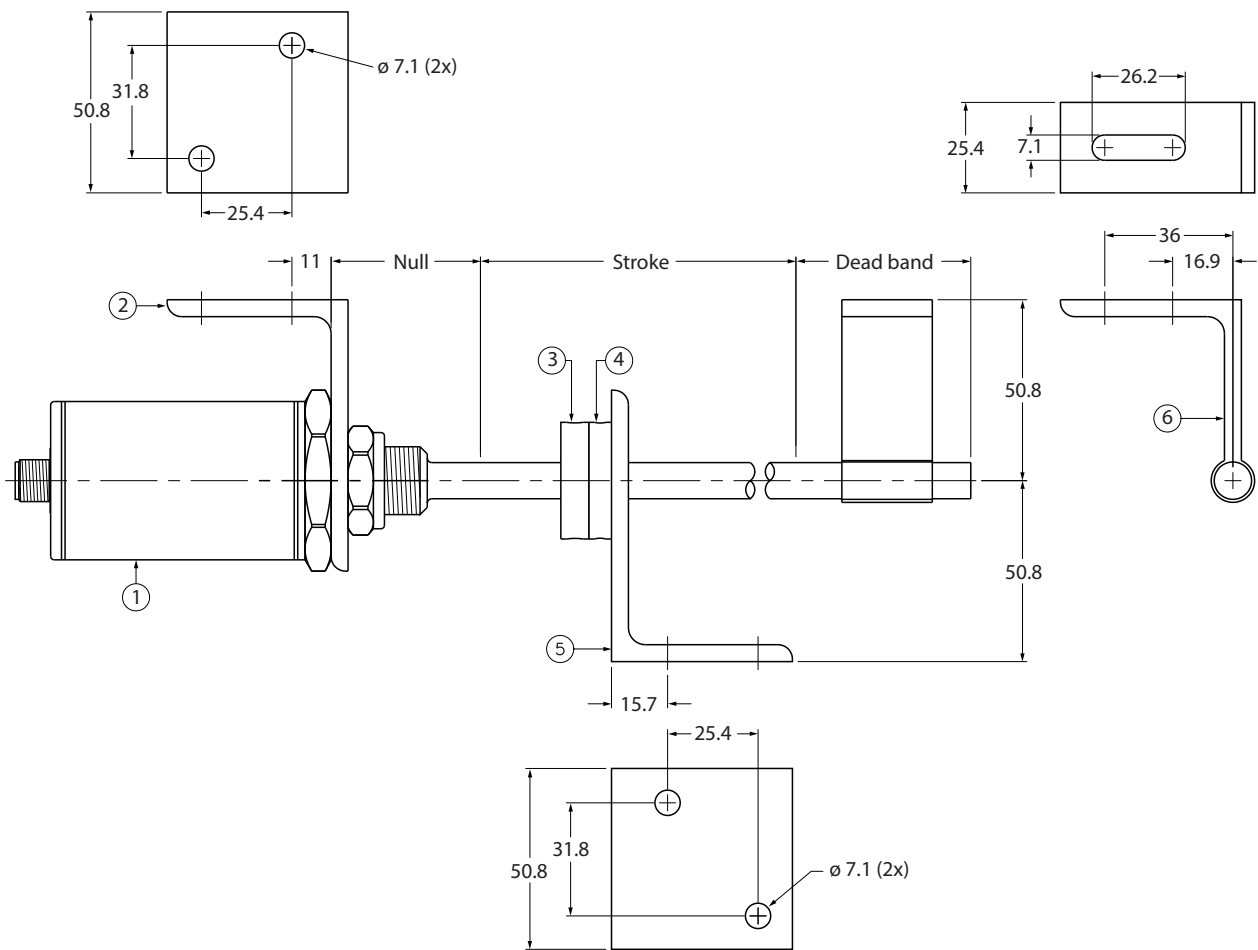

Fig. 10: Mounting positioning elements
- ▶ Sensors with probe lengths of 750...1800 mm: Fit additional mounting brackets as per fig. 10.